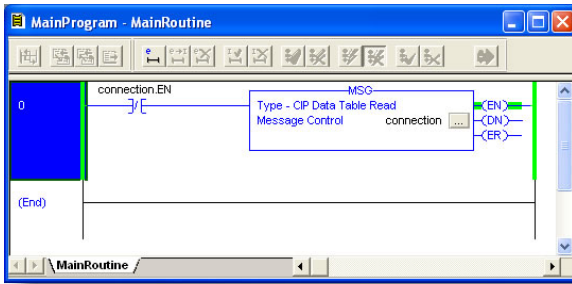

Figure 105: Complete Program
**6) The program is now complete. Refer to Figure 105.**